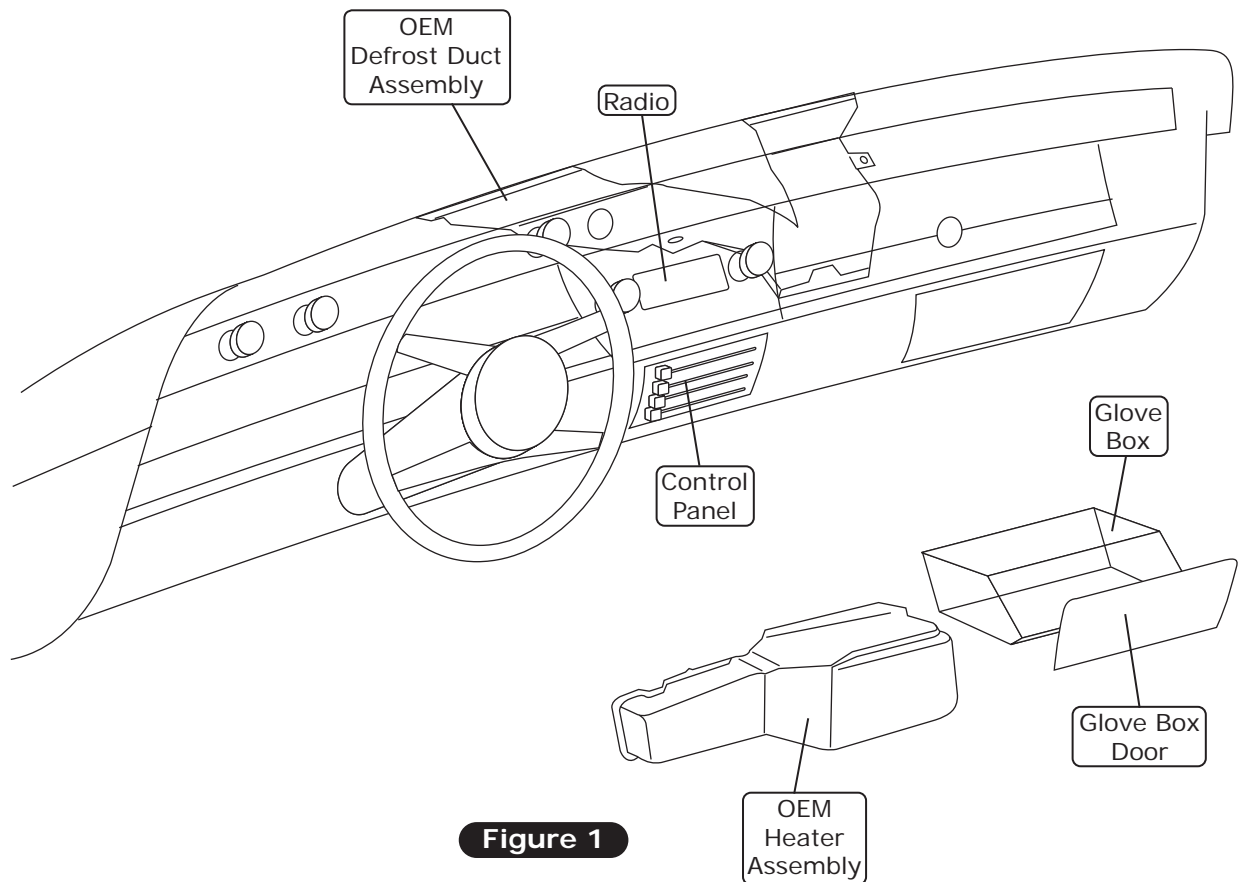

Figure 1
7. Remove the (5) mounting bolts on the bottom of the dash.
9. Remove (9) dash mounting screws.
13. Remove the OEM heater assembly (discard) (See Figure 1, below).